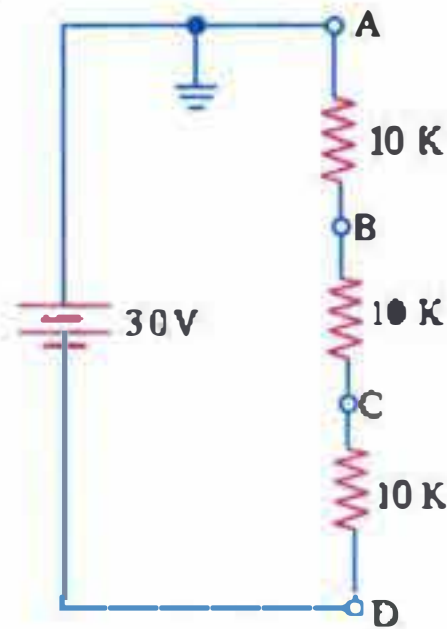

Fig. 1.22
8. In the network of Fig. 1.22, compute the potential of points A, B, C and D. Which point is at a higher potential : B or C ?